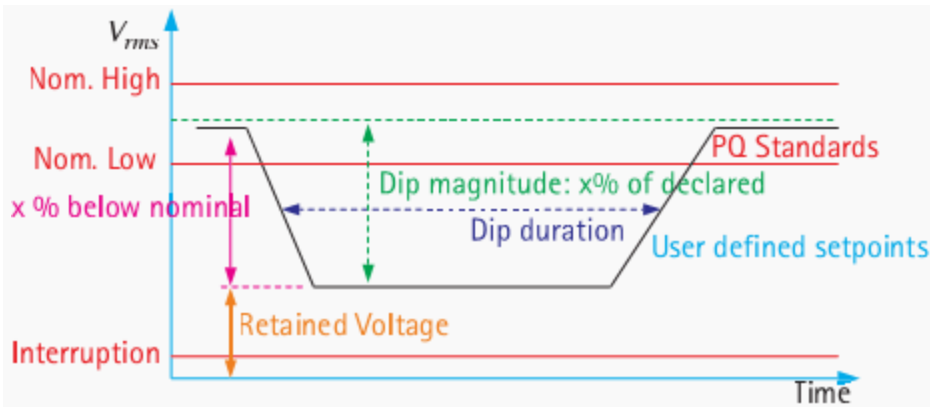

Figure 1 - Voltage dip profile
**Figure 1** shows the profile of a **voltage dip**, together with the associated definitions. The major cause of voltage dips on a supply system is a **fault on the system**, that is sufficiently remote electrically that a voltage interruption does not occur.